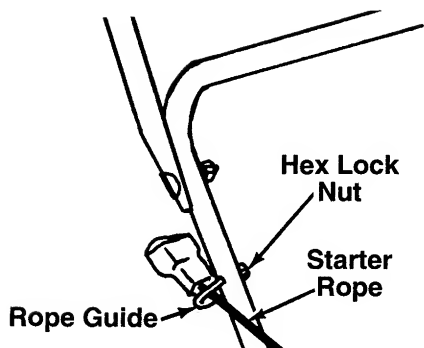

FIGURE 8.
- ← 3. Place the rope guide around the starter rope, so the rope guide is positioned as shown (bends downward slightly). Insert the rope guide through the right side of the lower handle, and secure with hex lock nut. See figure 8.